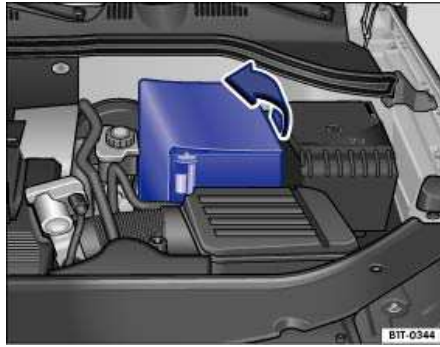

Fig. 144 In the engine compartment: Open the sleeve covering of the vehicle battery.
- *With a soft cover* ⇒ fig. 144: Open the cover to the side in the direction of the arrow.